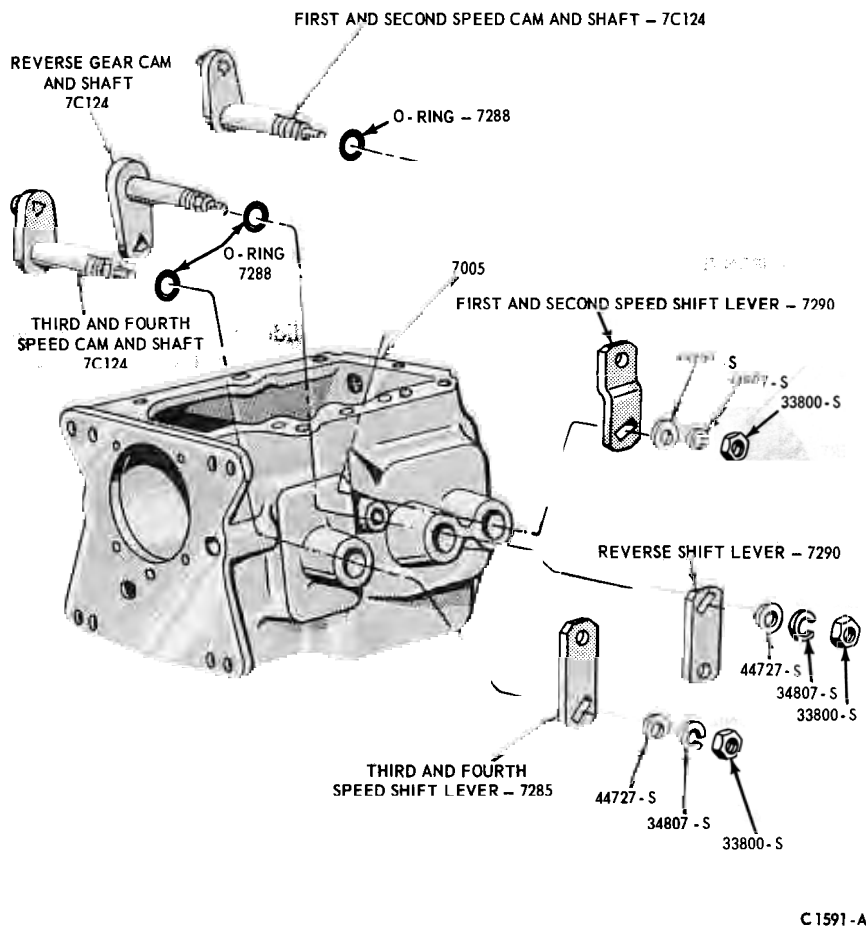

FIG. 13—Cam and Shafts and Shift Levers Disassembled
3. Remove the O-ring from each cam and shaft (Fig. 13) and discard the O-rings.